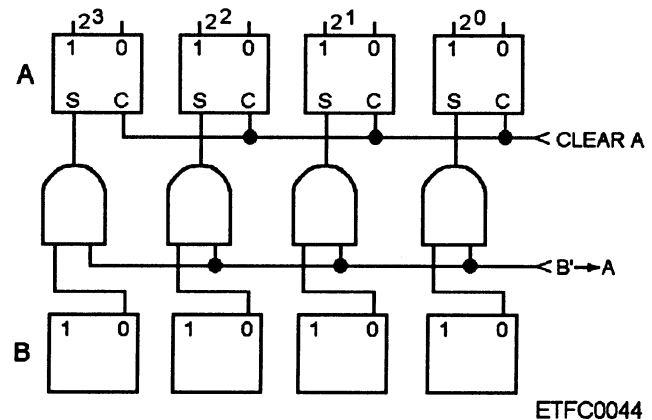

Figure 4-27.—Example of a single-line parallel complement transfer.
- **Complement**—Similar to the single-line parallel transfer except that the receiving register's set side of the flip-flops will receive the clear side of the sending register's flip-flops; thus the data has been complemented after the transfer is complete. Refer to figure 4-27.